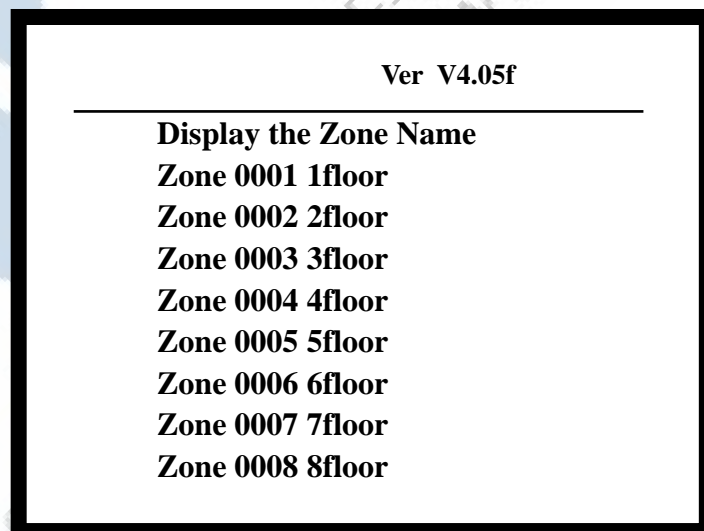

Fig. 4-13
Step 2: Choosing "5. Zone browse" can browse the zone definition as shown in Fig.4-13.